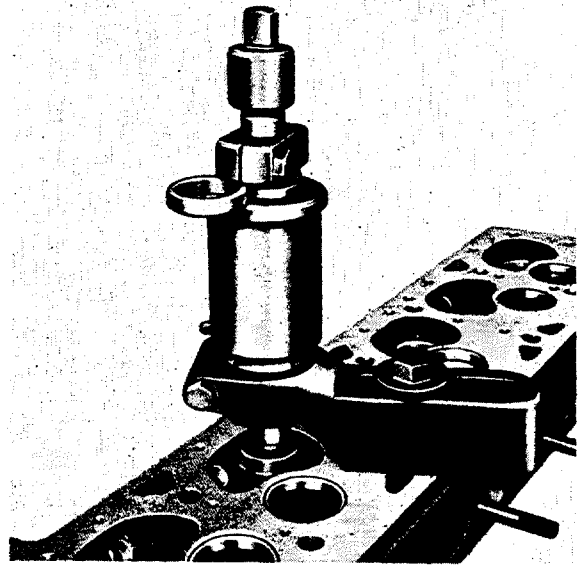

Fig. M 27/10
11. Mill recess for valve seat ring. When the adjusting ring abuts against the housing, this indicates the end of the milling operation (Fig. M 27/11).